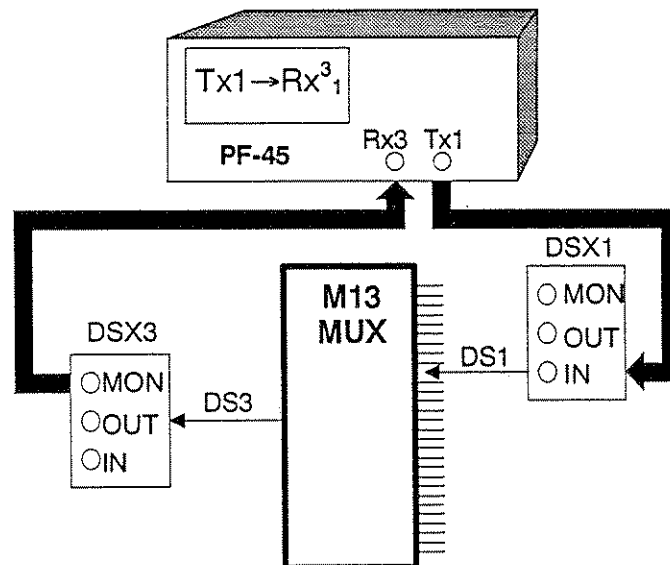

Figure 4-5: Tx1->Rx31 Mode
[Tx1->Rx31] mode (Fig 4-5) shows the testing of an M13 mux, but can also be used to test any portion of a system which can input a DSX1 test signal, but can only provide the returning test signal embedded in a DS3. In this case the system under test may be an M13 mux, or simply perform that function.
1. - Connect the PF-45 DS3 receive jack [12] to the monitor jack of the incoming DS3 at the DSX cross-connect panel with the appropriate cable, as shown in Figure 4-5.
- Connect the PF-45 DS1 transmit jack [13] to the desired DS1 input jack of the multiplexer at the DSX cross-connect panel with the appropriate cable, as shown in Figure 4-5.